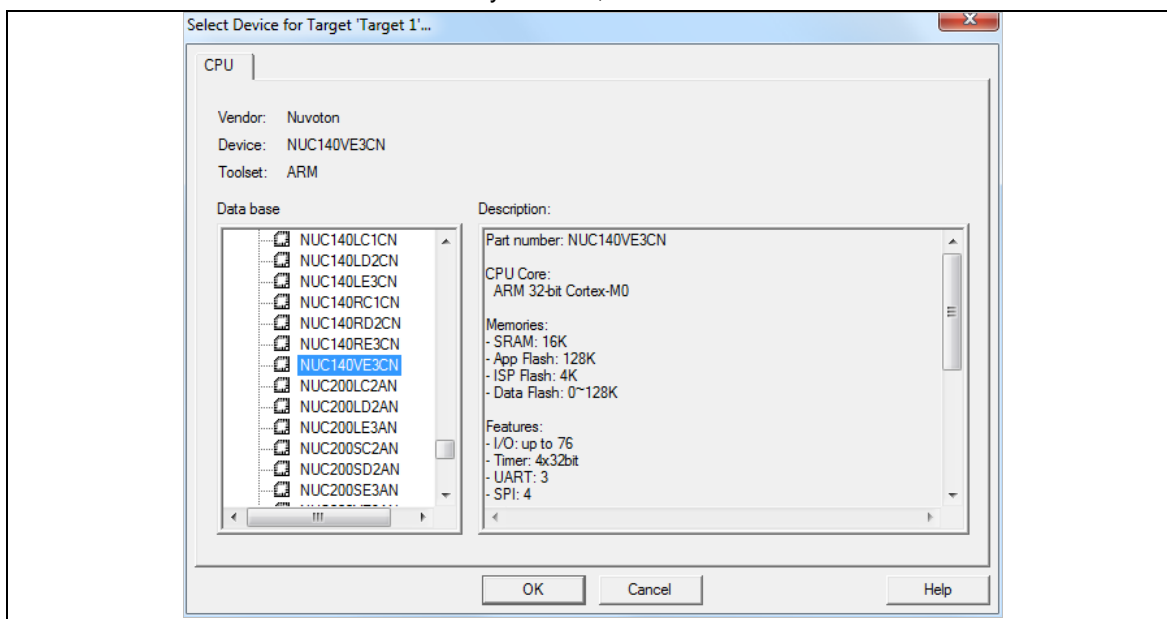

Figure 4-2 Select Device in MDK4
3. If user selects the correct device as shown in Figure 4-2, the RAM/ROM size and *.SFR* file will be filled up automatically. Otherwise, user has to set a correct RAM/ROM size and select correct *.SFR* file from "<Keil® install path>\Arm\SFD".